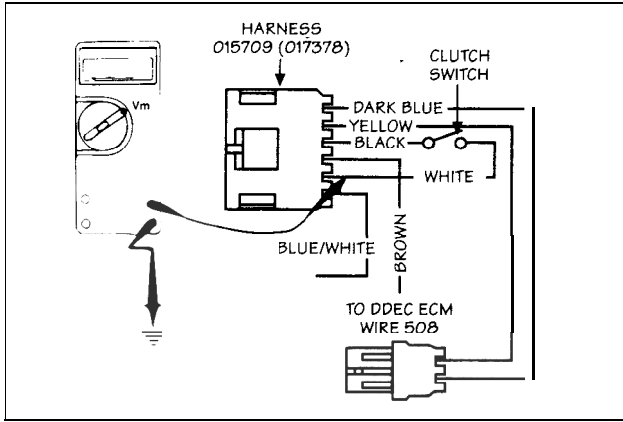

FIG. 1.1.24
**Correction:** With the P/N 015709 (017378) harness connected to the control module, measure the voltage at the terminal of the WHITE wire. With the clutch engaged (pedal not depressed), a reading of 0 VDC should be measured. With the clutch disengaged (pedal depressed) a reading of +5 VDC +/- 0.5 VDC should be measured (Fig. 1.1.24). If this condition does not exist, check continuity of clutch switch and BLACK and WHITE wires.